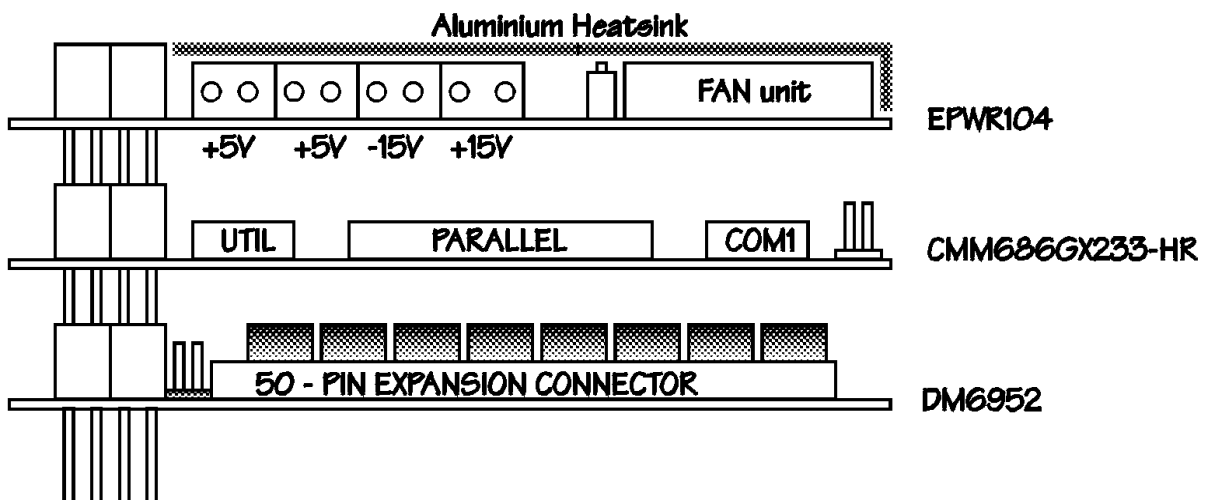

Fig. 3-1: DM6952 integrated in a PC/104 RTD cpuModule stack
- Fig. 3-1 : DM6952 integrated in a PC/104 dataModule stack